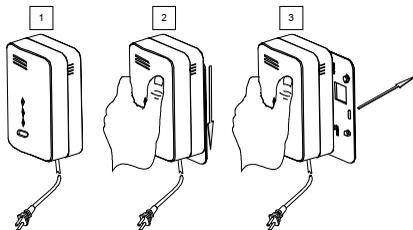

Figure B- 40: Mounting the Detector
1. Remove the mounting bracket from your unit according to Figure B- 40.